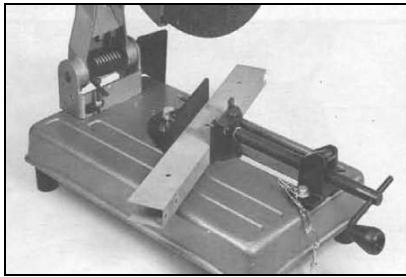

Fig 6
The vice pressure plate (H) will automatically match the work piece (Fig 6).